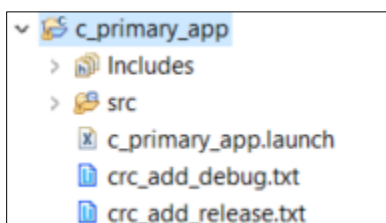

Figure 7.39. Copied Text Files
- The text files are now added under the FreeRTOS App C project as shown in Figure 7.39.